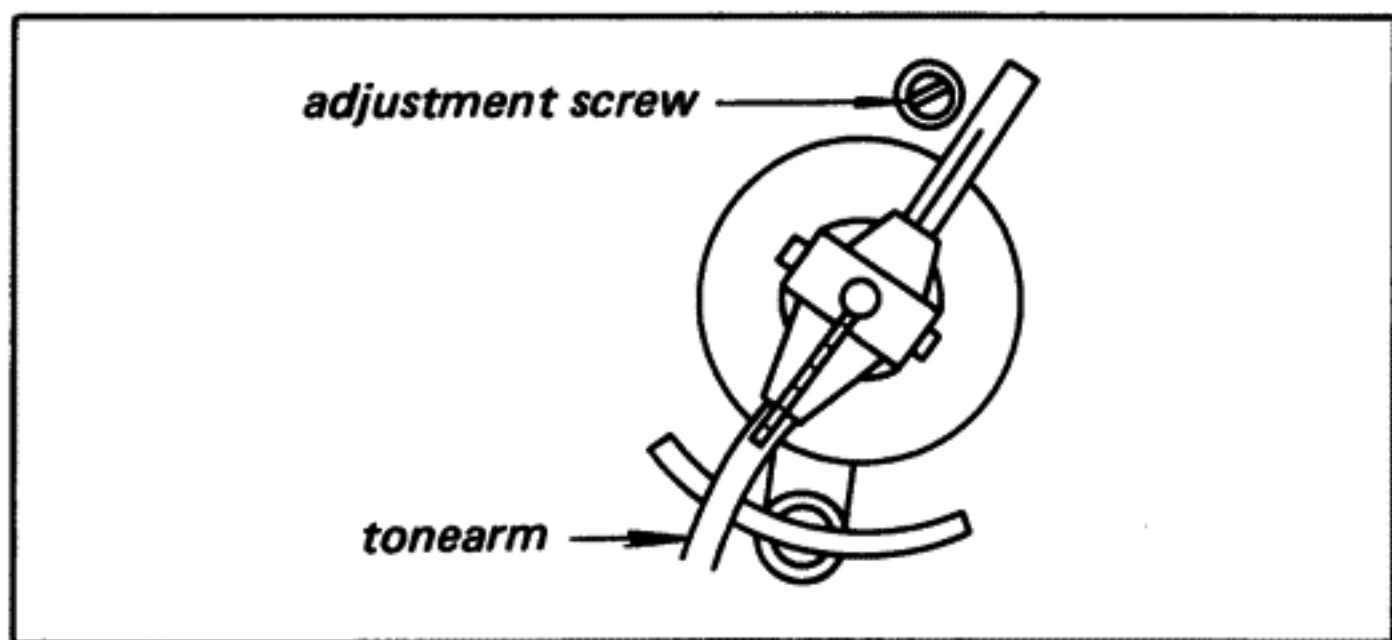

Fig. 3-13. Shutter position adjustment (2)
6. Adjust the position of the shutter by turning the adjustment screw (See Fig. 3-13.) so that the VOM reads 4.5 ± 0.5 V.
After completing the preceding adjustments (A, B, C), check the automatic return operation by using a record. If it is not working properly, adjust by turning the adjustment screw as shown in Fig. 3-13.